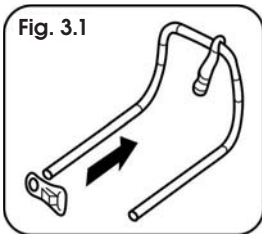

Fig. 3.1
- ✿ Prior to installing the handle, slide the power cord holding hook on to the top part. Figure 3.1